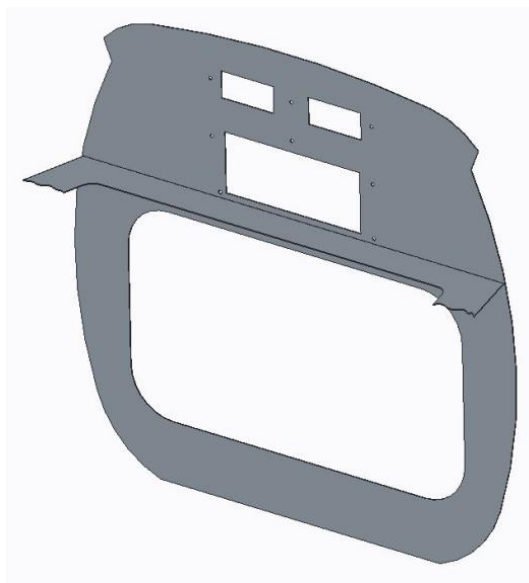

Figure 29 – Cut Bulkhead
- 2) Cut inlet/outlet windows and (8) Ø.500 holes in the bulkhead per note 1. See Figure 29.